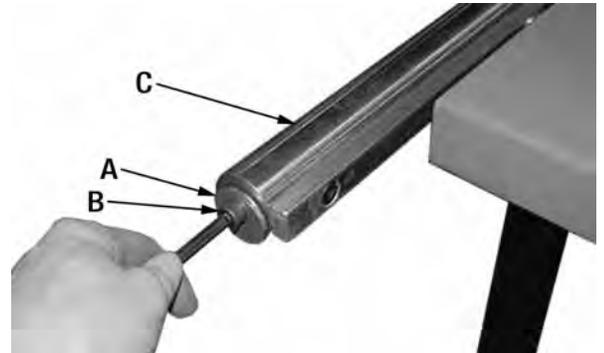

FIGURE 11
3. Remove the stop washer (A) Fig.11 and cap screw (B) from the end of the rip fence bar (C).
5. Reinstall the rip fence on the machine, then reinstall the stop washer (A) Fig.11 and cap screw on the end of the rip fence bar. This will prevent the rip fence from sliding off the rip fence bar.